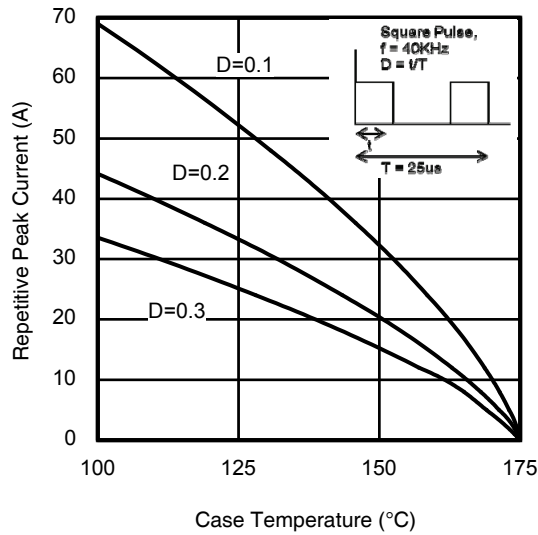

Fig. 26 - Typical Gate Charge vs. V_{GE}
- ① $V_{CC} = 80\% (V_{CES}), V_{GE} = 20V, L = 210\mu H, R_G = 10\Omega$.
- ② R_θ is measured at T_J of approximately 90°C.
- ③ Refer to AN-1086 for guidelines for measuring $V_{(BR)CES}$ safely.
- ④ Pulse width limited by max. junction temperature.
- ⑤ Values influenced by parasitic L and C in measurement.
- ⑥ $f_{sw} = 40KHz$, refer to figure 26.